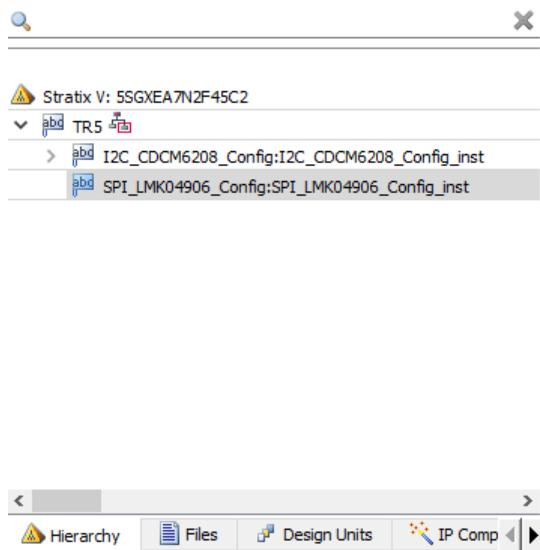

Figure 5-12 Sub-Module file " SPI_LMK04906_Config.v"
8. Open LMK04096B control IP sub-module “SPI_LMK04906_Config.v “as shown in **Figure 5-12**, refer Design Report parameter to modify all the sub-module corresponding register values (See **Figure 5-13**).